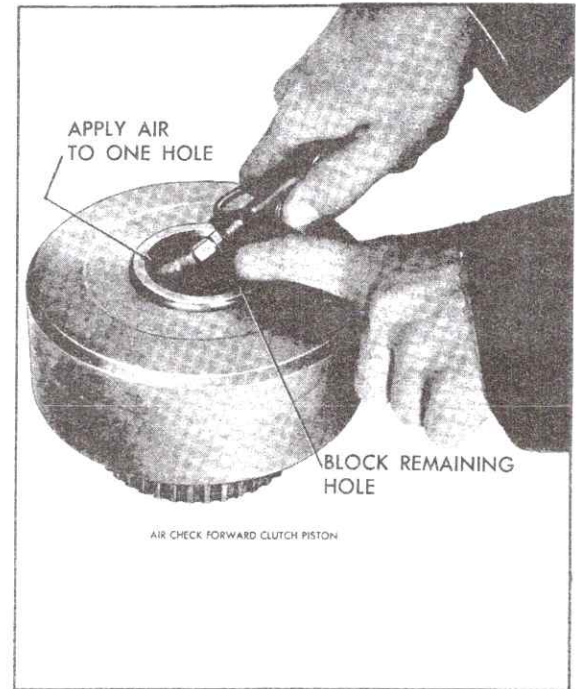

Fig. 7-190 Air Checking Forward Clutch
1. Air check forward clutch and piston operation, Fig. 7-190.